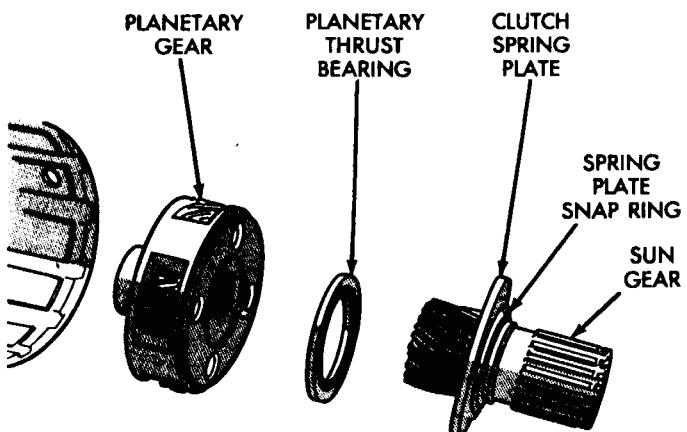

Fig. 26 Sun Gear, Thrust Bearing And Planetary Gear Removal
- (15) Remove sun gear and spring plate, planetary thrust bearing and planetary gear (Fig. 26).